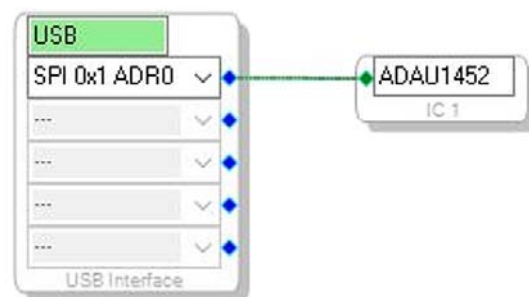

Figure 18. Connecting the **USB Interface** Block to the **IC 1** Block in the **Hardware Configuration** Tab
8. To connect the **USB Interface** block to the **IC 1** block, the **ADAU1452**, click and drag a line representing a wire between the blue pin of the **USB Interface** block and the green pin of the **IC1** block (see Figure 18). This connection allows the **USBi** to communicate with the **ADAU1452**. The corresponding drop-down field of the **USB Interface** block automatically fills with the default mode and channel for the connected **IC1** block. With the **ADAU1452**, the default communications mode is **SPI**, the default slave select line is **1**, and the default address is **0**.